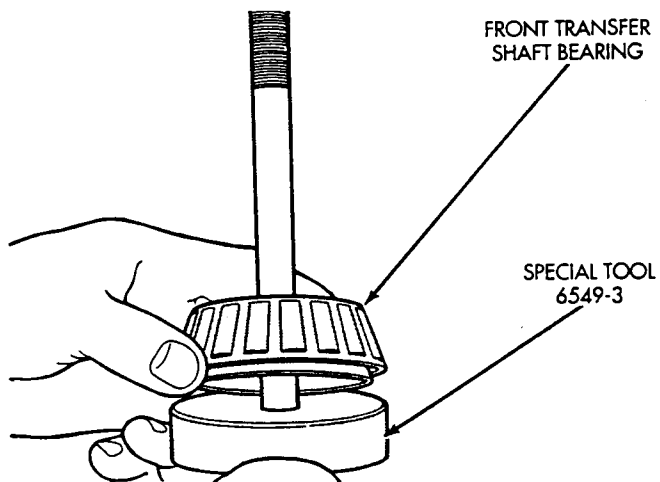

Fig. 3 Gauge Disc and Bearing
(3) Install new front bearing (actual bearing to be used during reassembly) onto gauge disc (special tool 6549-3) (Fig. 3).